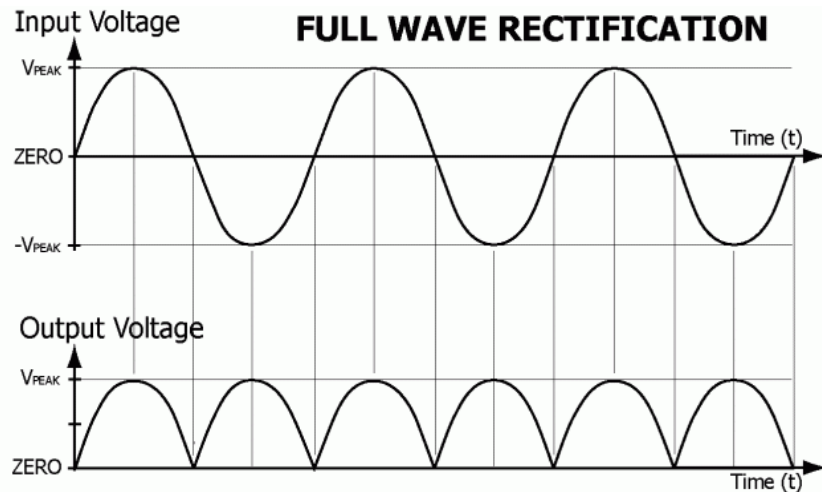

Fig 4.2: Circuit Diagram of Centre-Tap Full Wave Rectifier with input and output waveforms
The circuit of a center-tapped full wave rectifier uses two diodes D1&D2 as shown in Figure 4.2. During positive half cycle of secondary voltage (input voltage), the diode D1 is forward biased and D2 is reverse biased. So the diode D1 conducts and current flows through load resistor R_L . During negative half cycle, diode D2 becomes forward biased and D1 reverse biased. Now, D2 conducts and current flows through the load resistor R_L in the same direction. There is a continuous current flow through the load resistor R_L , during both the half cycles and will get unidirectional current as shown in the model graph. The difference between full wave and half wave rectification is that a full wave rectifier allows unidirectional (one way) current to the load during the entire 360 degrees of the input signal and half-wave rectifier allows this only during one half cycle (180 degree).
1. In order to make circuit diagram for full wave rectifier follow the circuit shown in fig. 4.2.